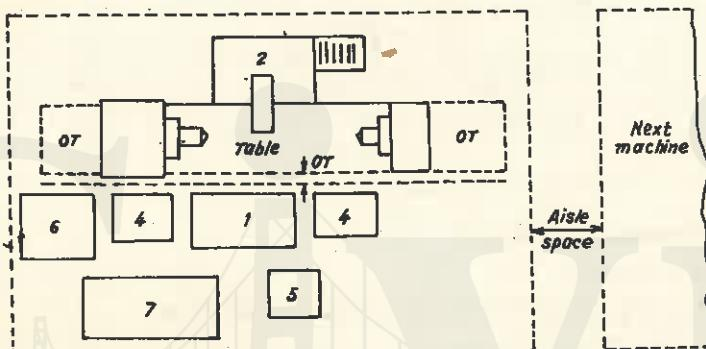

Fig. 4.6. A work station layout for a cylindrical grinding machine.
6. Appropriate ventilating, lighting and safety arrangements. Figure 4.6 shows a work station layout, numbers 1, 2, 4, etc. refer to those of space requirements.